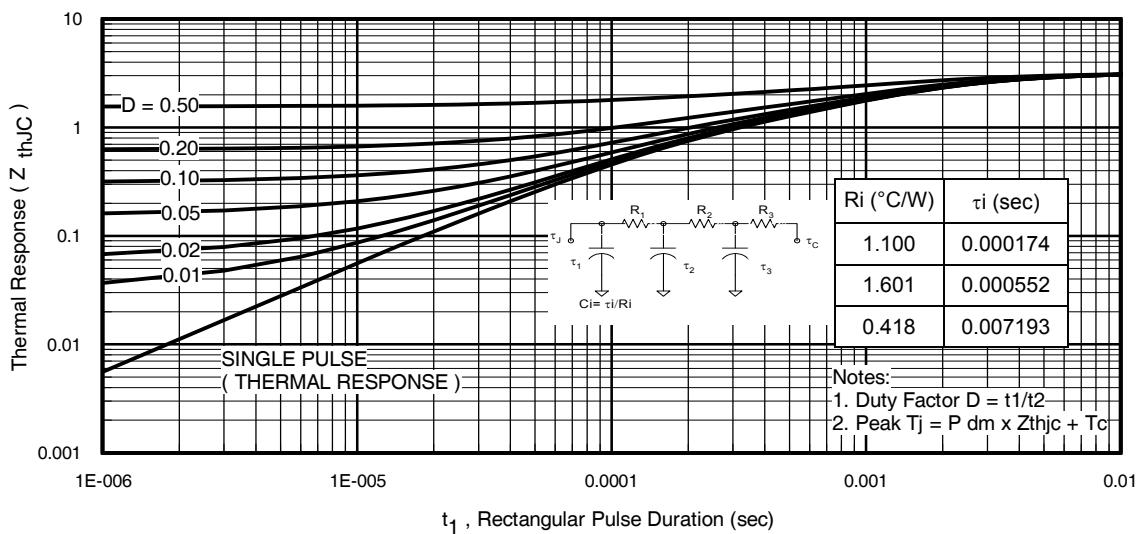
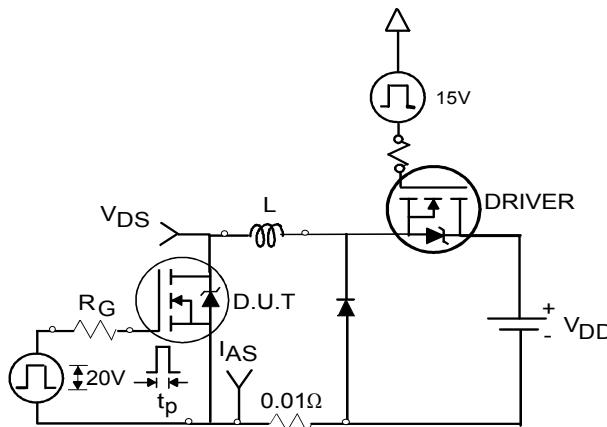

Fig 11. Maximum Effective Transient Thermal Impedance, Junction-to-Case
Fig 12a. Unclamped Inductive Test Circuit
- ① Repetitive rating; pulse width limited by max. junction temperature. (See fig. 11)
- ② Limited by $T_{J\max}$, starting $T_J = 25^\circ\text{C}$, $L = 0.18\text{mH}$, $R_G = 25\Omega$, $I_{AS} = 18\text{A}$, $V_{GS} = 10\text{V}$. Part not recommended for use above this value.
- ③ Pulse width $\leq 1.0\text{ms}$; duty cycle $\leq 2\%$.
- ④ $C_{oss\ eff.}$ is a fixed capacitance that gives the same charging time as C_{oss} while V_{DS} is rising from 0 to 80% V_{DSS}
- ⑤ Limited by $T_{J\max}$, see Fig.12a, 12b, 15, 16 for typical repetitive avalanche performance.
- ⑥ This value determined from sample failure population, starting $T_J = 25^\circ\text{C}$, $L = 0.18\text{mH}$, $R_G = 25\Omega$, $I_{AS} = 18\text{A}$, $V_{GS} = 10\text{V}$.
- ⑦ When mounted on 1" square PCB (FR-4 or G-10 Material). For recommended footprint and soldering techniques refer to application note #AN-994
- ⑧ R_θ is measured at T_J approximately 90°C .
3. Equation below based on circuit and waveforms shown in Figures 12a, 12b.